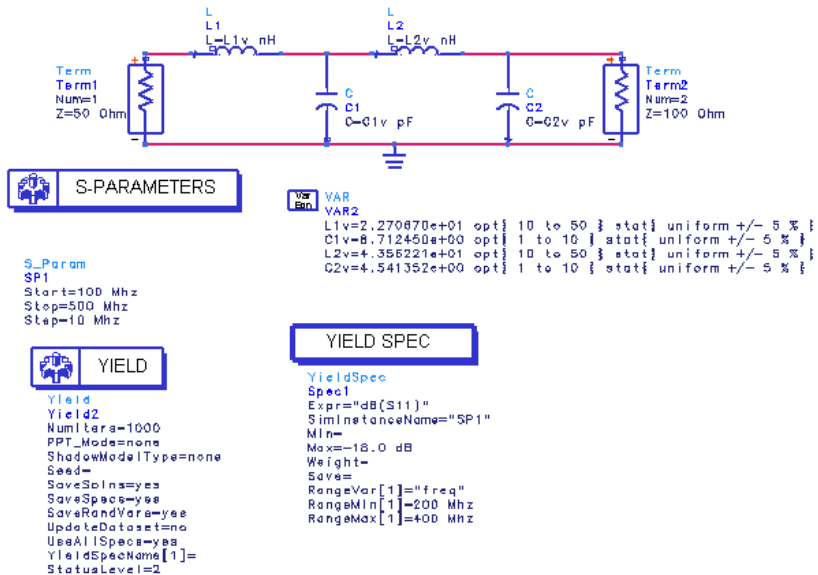

Figure 3-1. Design Including YieldSpec Component
1. A *YieldSpec* component is added to the design to define that specification, as shown in Figure 3-1